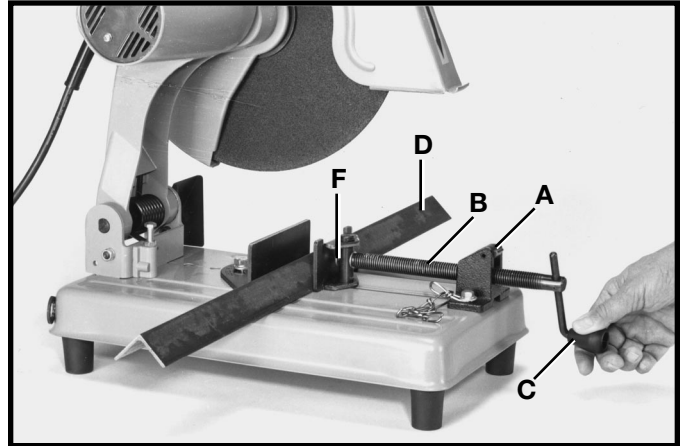

Fig. 11
3. Push in on screw handle (C) Fig. 11, until front vise clamp (F) contacts workpiece (D).
4. Flip half-nut (A) Fig. 11, over to engage screw (B) and tighten screw handle (C) to securely clamp workpiece (D) in the vise.